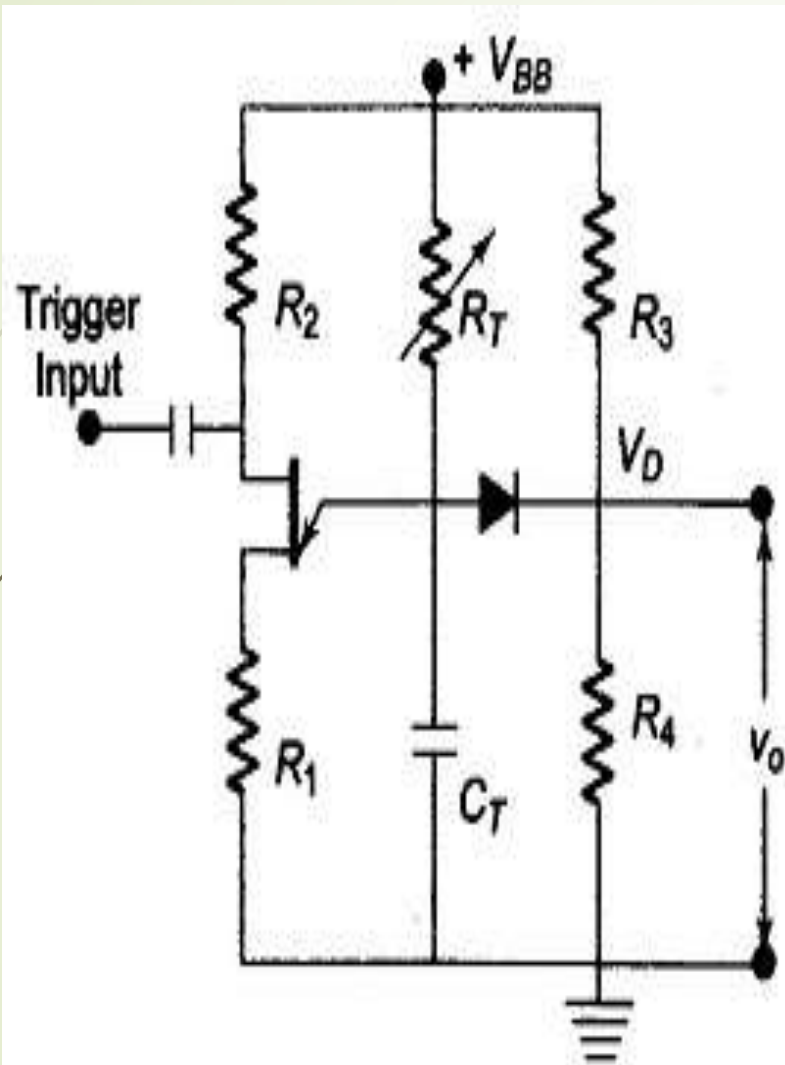

Fig. 7.10 Triggered Sweep
- ▶ As shown in Fig. 7.10, resistance R_3 and R_4 form a voltage divider such that the voltage V_D at the cathode of the diode is below the peak voltage V_p for UJT conduction.